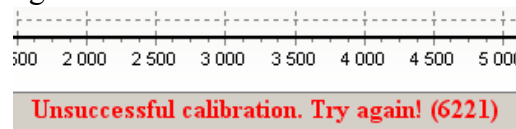

Fig. 8.10
Step 12. If the calibration was unsatisfactory, a caption «Unsuccessful calibration. Try again!» will appear in the bottom of the window (see Fig. 8.10). Number in parentheses at the end of this caption is residual error of the calibration in nanoTeslas.